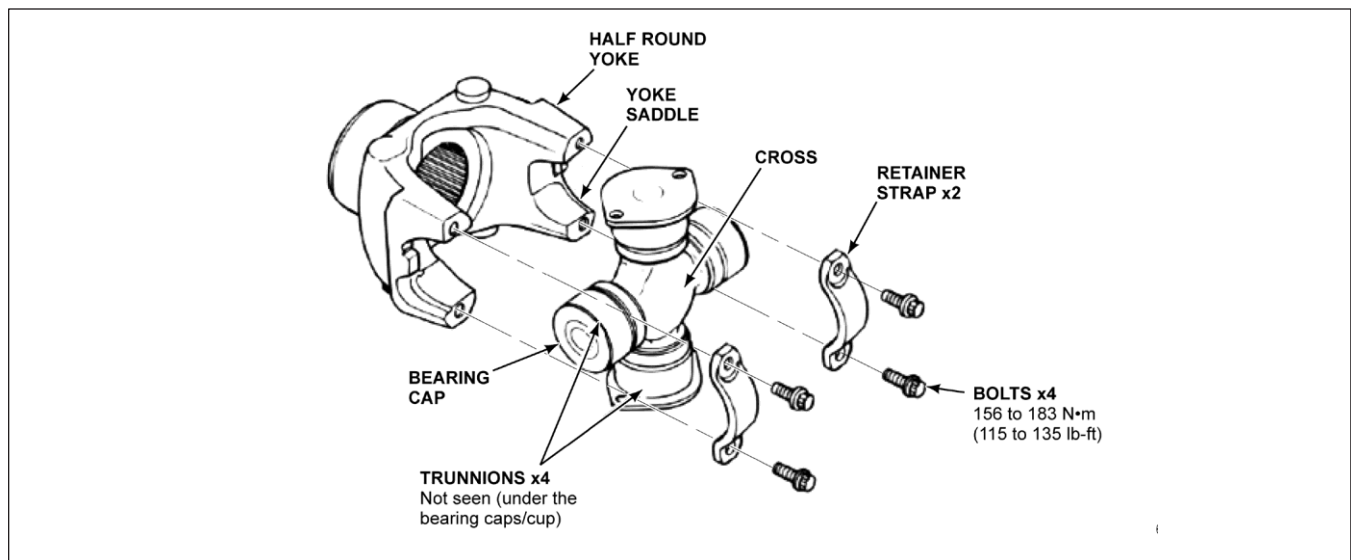

Figure 2 - Torque Specification for U-joint Straps and Bolts
- 1.14. Install driveline and secure U-joints to transmission output yoke with new straps and bolts from kit N33666. See torque specification in Figure 2.